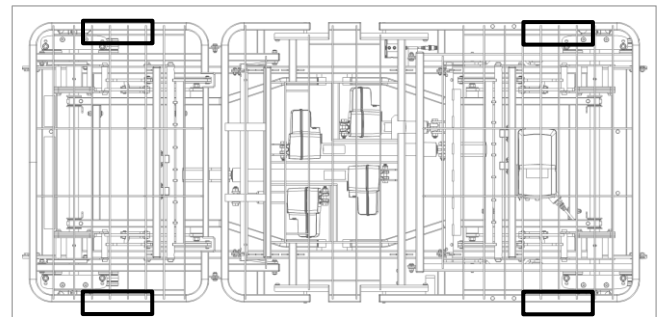
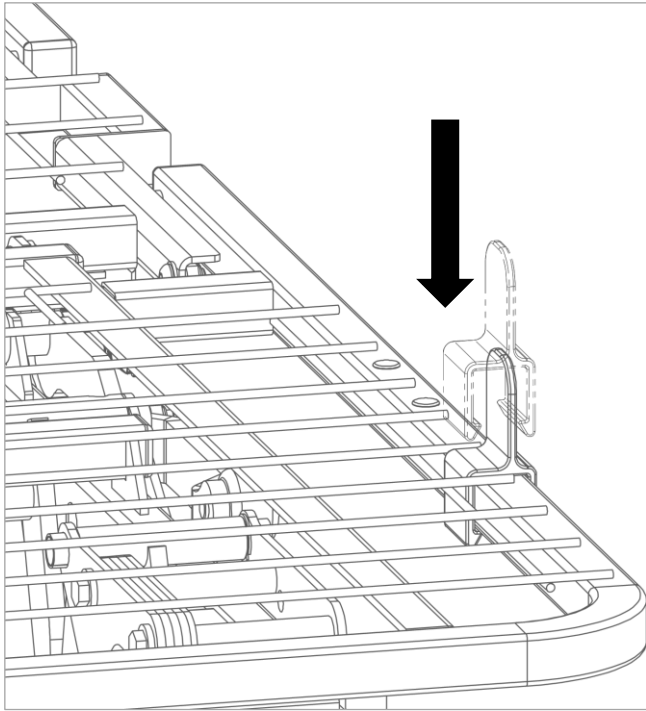

Figure 8.10
Figure 8.11
18. Install the four mattress guides as shown in Figure 8.11 (note the orientation) in the locations shown in Figure 8.10. They may be fitted in any position within the locations shown.